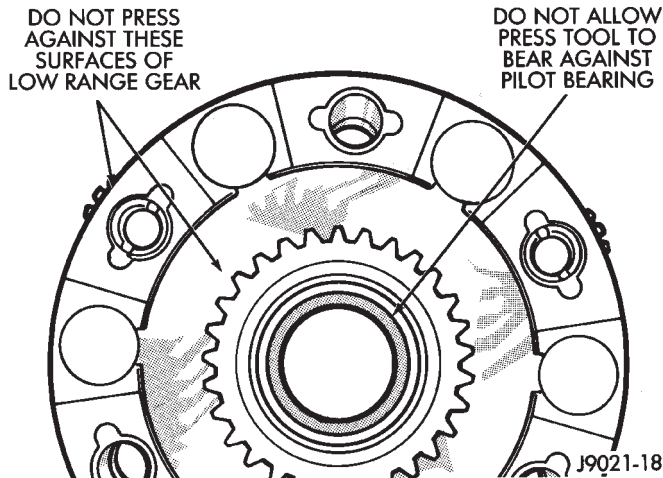

Fig. 36 Input And Low Range Gear Installation
(13) Install input gear snap ring (Fig. 36).
(14) Lubricate input gear with automatic transmission fluid.
(15) Start input gear in front bearing.
(16) Press input gear into front bearing (Fig. 36).
CAUTION: Use a proper size tool to press the input gear into the front bearing. An incorrect tool could push the input gear pilot bearing too far into the gear bore (Fig. 36). Also, do not press against the end surfaces of the low range gear. The gear case and thrust washers could be damaged.